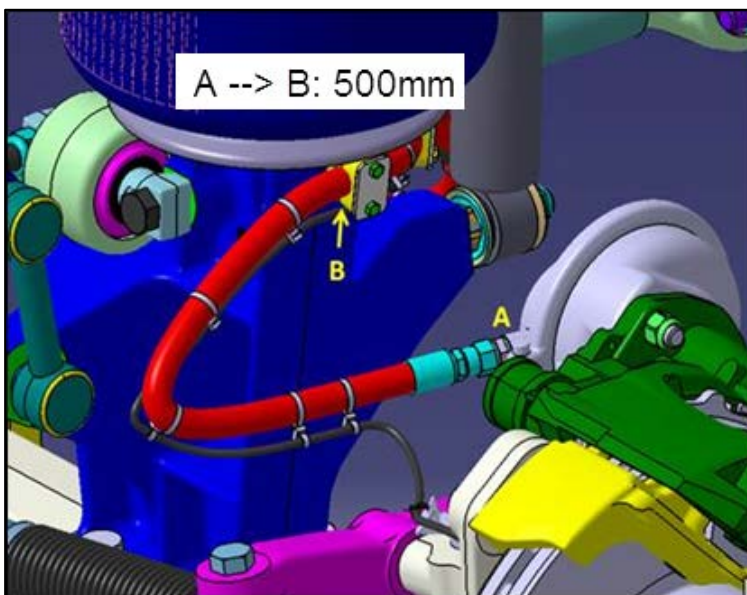

Figure 2
3. If there is interference, reposition the hose on each side of the vehicle as shown in fig. 2 and 3.